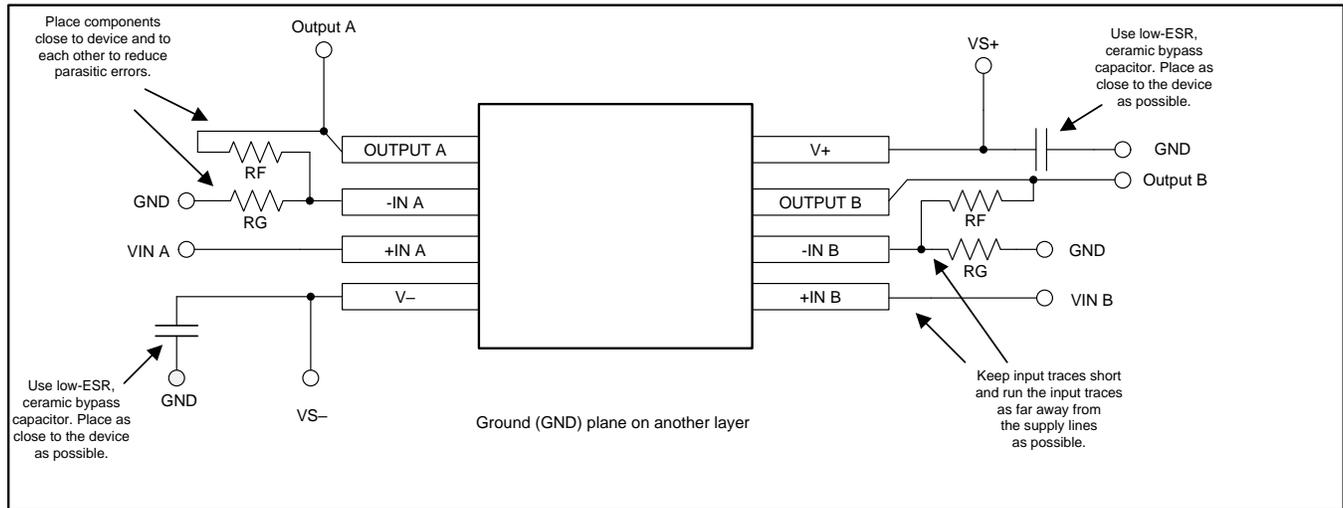

Figure 58. Operational Amplifier Board Layout for Noninverting Configuration
- Place the external components as close to the device as possible. As illustrated in Figure 58, keeping R_F and R_G close to the inverting input minimizes parasitic capacitance.